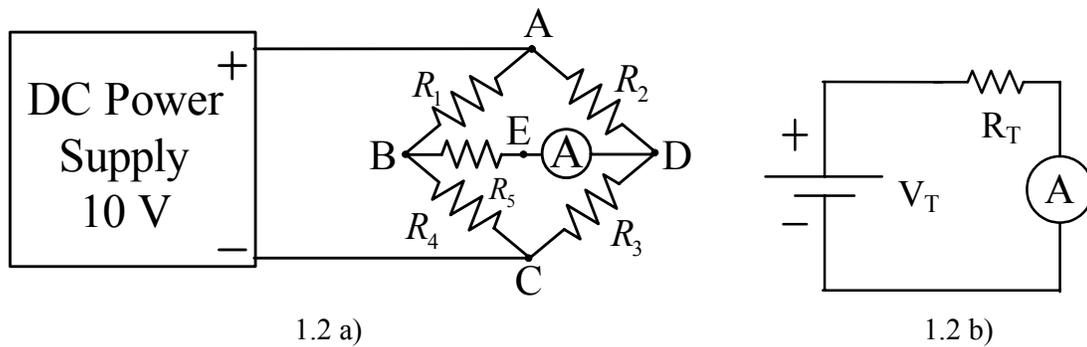

Figure 1.2: Test circuit
- 1) Connect the circuit as shown in Figure 1.2 a). Set the input DC voltage to be **10 V**.
- 3) The current can also be calculated from using a Thevenin circuit as shown in Figure 1.2 b).